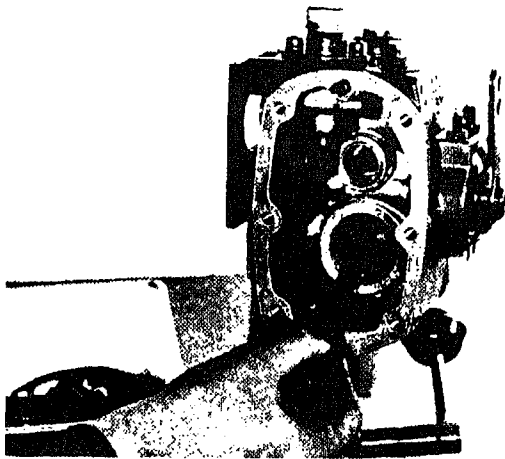

Fig. 501-12 Removing governor plunger
1. Slide governor plunger from barrel. Fig. 501-12.